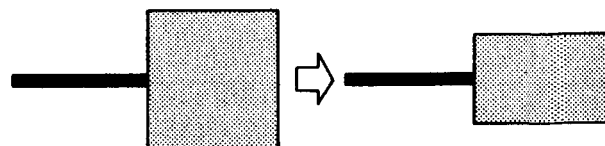

Fig. 5-1
5. ADJUSTMENT AFTER REPLACING THE CYLINDER (Figs. 5-1, 5-2)
- 7) Turn RT1 on the ATF-R jig and check that the waveform always changes while being flat. (See Fig. 5-1) If this cannot be confirmed, adjust the height of the supply guide roller, referring to "4.4 Supply/Take-up Guide Roller Height Adjustment".